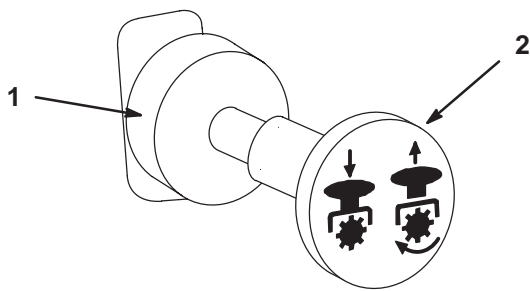

Figure 20
3. Pull out on the power take off (PTO) switch to engage (Fig. 20).
1. To disengage push the PTO switch to the off position (Fig. 20).